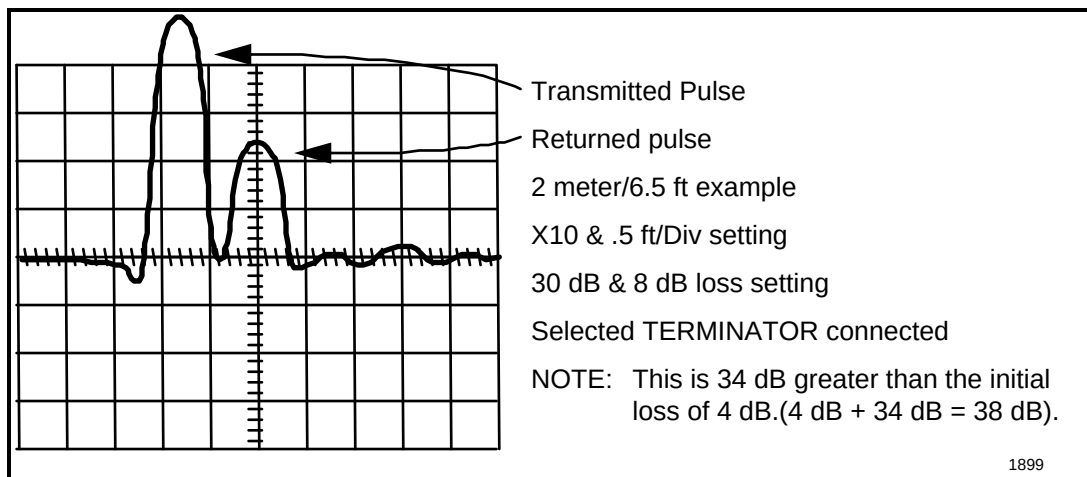
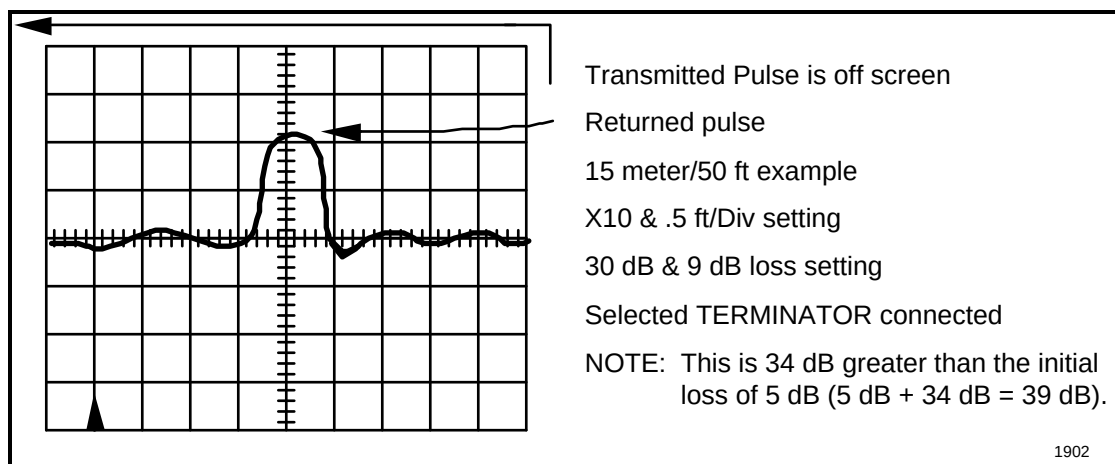

Figure C-6
Figure C-9
10. Adjust the POSITION and FINE controls until the left and right base lines are on the center line of the screen as in Figure C-6 or Figure C-9.
- E. When the COAX and TERMINATOR match each other, the returned pulse is very small or very flat on the base line. Figures C-6, or C-9, or C-11 look almost flat at the returned pulse.